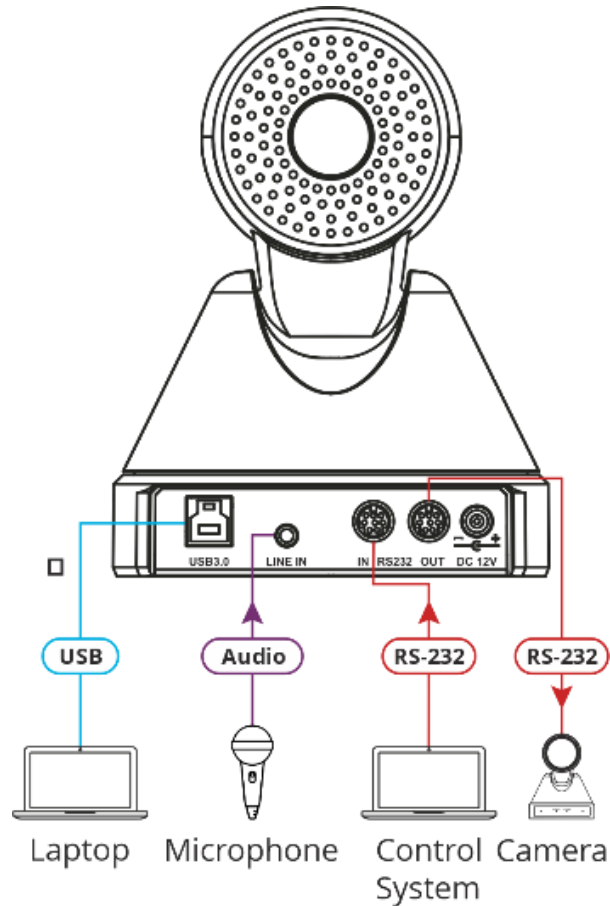

Figure 2: Connecting to the K-CamHD Rear Panel
To connect K-CamHD as illustrated in the example in Figure 2:
1. Connect the USB 3.0 port (5) to a laptop.
2. Connect a microphone to the LINE IN 3.5 Mini Jack (6).
3. Connect the RS232 OUT 8-pin DIN Connector (8) to an additional Camera.
4. Connect a control system to the RS232 IN 8-pin DIN Connector (7).
5. Connect the power adapter to **K-CamHD** and to the mains electricity (not shown in Figure 2).